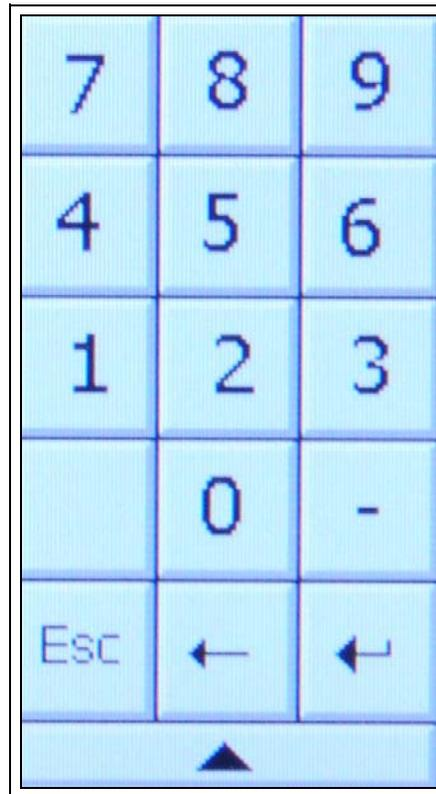

Figure 4R Help Menu Screen
2. In “Modify Spout Positioning” screen select the “0” key pad next to “OFFSET ALL”. A number keypad will display. (See Figure 4R.)